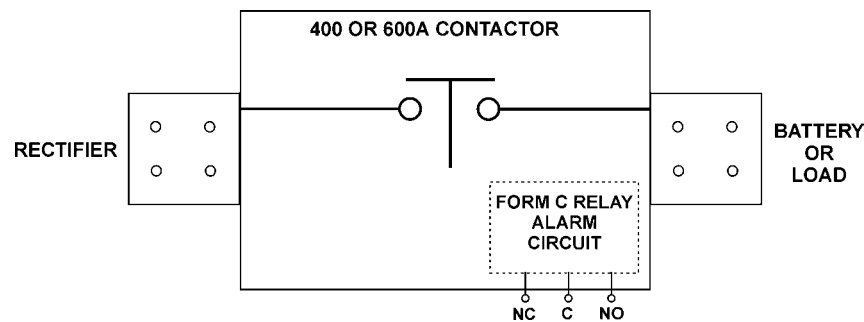

Figure 2. Simplified Diagram of LVD400/600
9.1 Figure 2 shows a simplified diagram of the LVD400/600 circuit for either the A or B side.